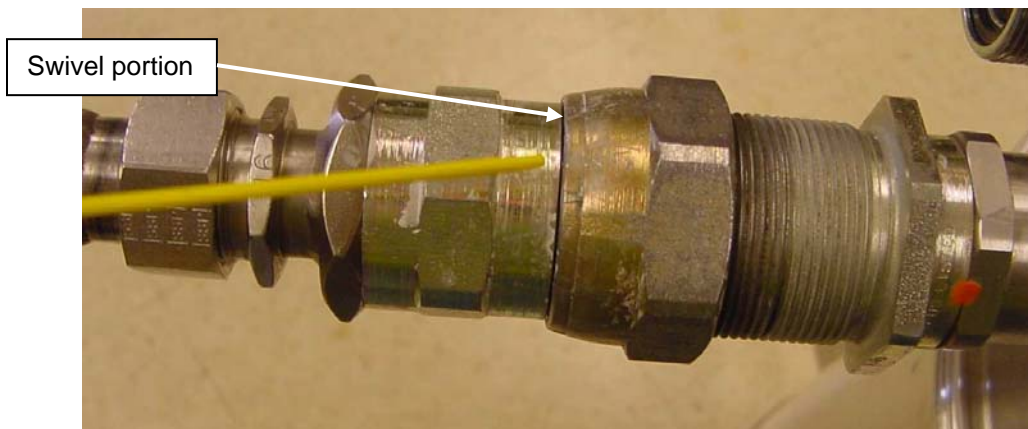

Figure B-5: Apply lubricant to swivel portion
1. Apply a small amount of TFL-50® to the swivel portion of the female Aeroquip® as shown in Figure B-5.